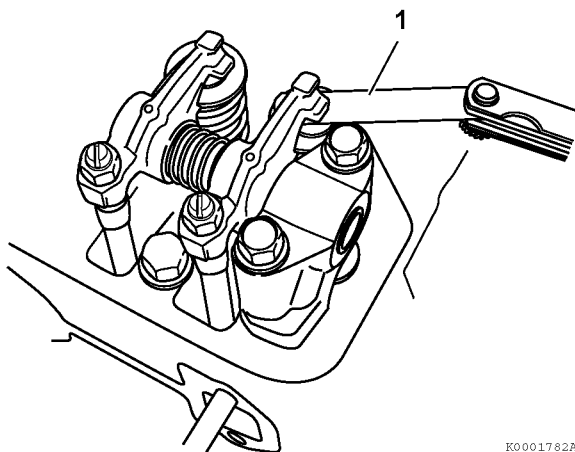

Figure 6-77
3. Insert a feeler gauge (Figure 6-77, (1)) between the rocker arm and valve cap, and record the measured valve clearance. (Use the data for estimating the wear.)